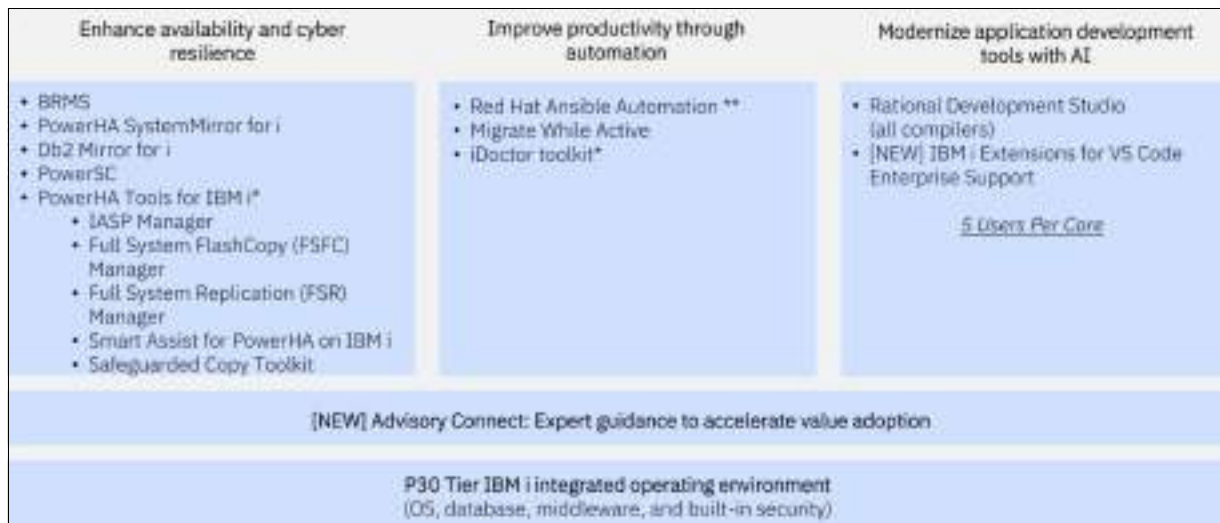

Figure 6-3 P30 bundle contents
Figure 6-3 shows the contents of the P30 bundle.
- ▶ The * character in Figure 6-3 on page 154 designates a license for assets only.
- ▶ The ** characters in Figure 6-3 on page 154 designate that for Red Hat Ansible Automation, there is 1 year of support for 100 managed nodes with a minimum purchase of 10 P30 Enterprise Edition cores